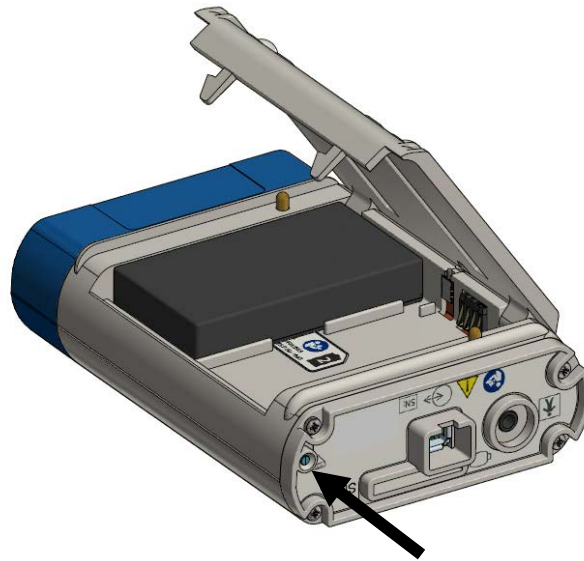

Figure 3: Battery replacement
1. Open the battery door by pressing the door-release button with a pointed object (for example, a pen). The battery door will spring open. See Figure 3.